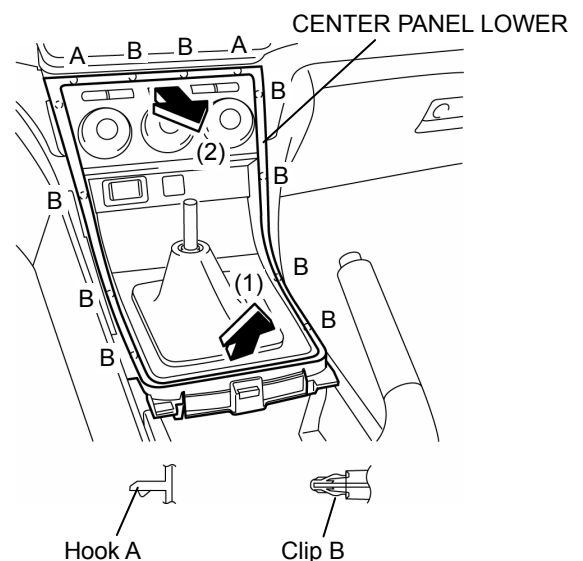

FIGURE 7
7. Remove the center panel lower. (refer to Figures 7)
- A. Pull the center panel lower in the direction of the arrow in the order of (1) and (2), then remove it while detaching hooks A (2 locations) and clips B (10 locations).